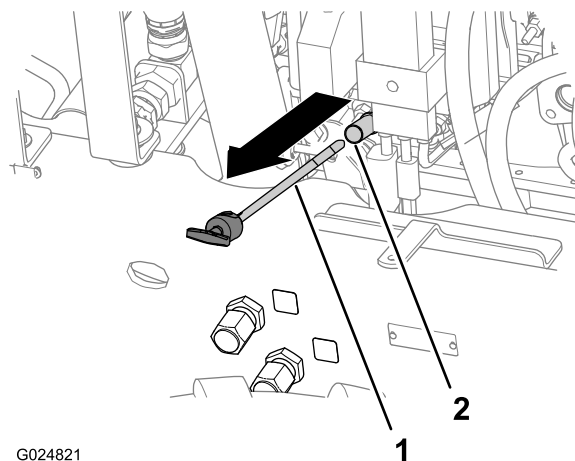

Figure 23
4. Remove the dipstick and wipe it clean with a clean cloth (Figure 23).
5. Insert the dipstick fully into the dipstick tube, then remove the dipstick (Figure 23).